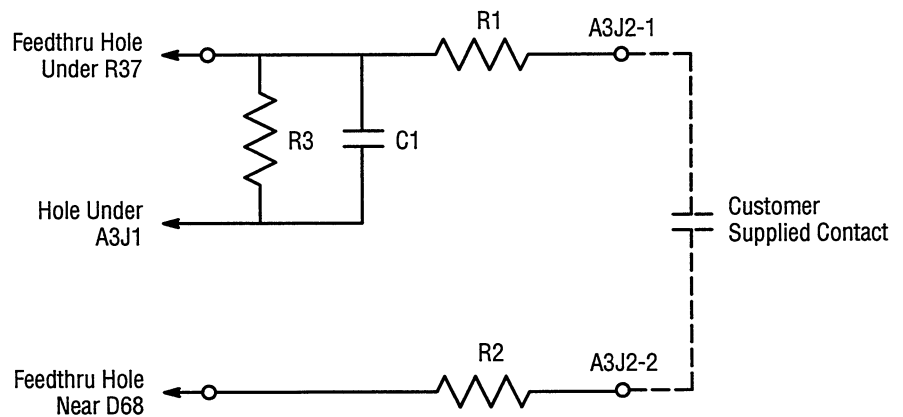

Figure 2
- b) Remove the two screws shown in Figure 2.
- ❑ 5. Remove the four (4) spare jumper pins near A3J2 (J2) by unsoldering both the top and bottom sides of the pins. Remove excess solder from the holes. See Figure 2 and Detail A of Figure 3. Remove the solder from the feedthru hole in the thick foil path under A3J1 (J1).
- ❑ 6. Locate the position for connector A3J2 (see Figure 2). Remove the solder from the holes in the board. While viewing the top (component) side of the board, position the right angle PCB connector (supplied) so that the pins point toward the center of the board. Using the supplied foam tape, cut a spacer to be added between the plastic foot of the connector and the circuit board (see Detail D of Figure 3). Insert connector in holes and solder in place.
- ❑ 10. Remove the solder from the feedthru hole located near the number "8" of the D68 component designator. Refer to Figure 2 and Detail C of Figure 3.